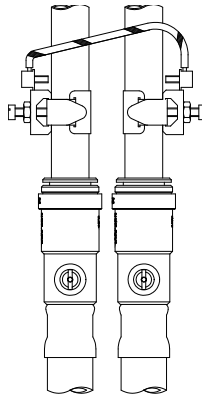

Figure 12
- **Adjacent pipes:** Adjacent suction and delivery pipes should be fitted with earthing clamps and connected with earthing wire size 4 mm2 (Figure 12).